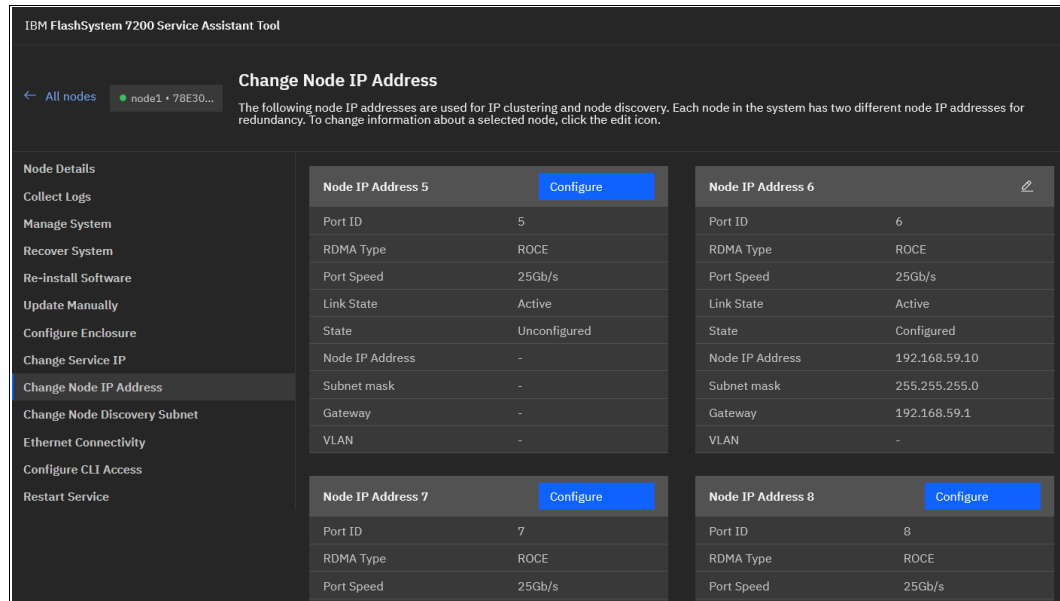

Figure 2-46 Node IP addresses configured
3. When the required information is entered, click **Save** and verify that the operation finished successfully, as shown in Figure 2-46. Repeat this step for all ports that you intend to use for node-to-node traffic, with a minimum of two and a maximum of four ports per node.